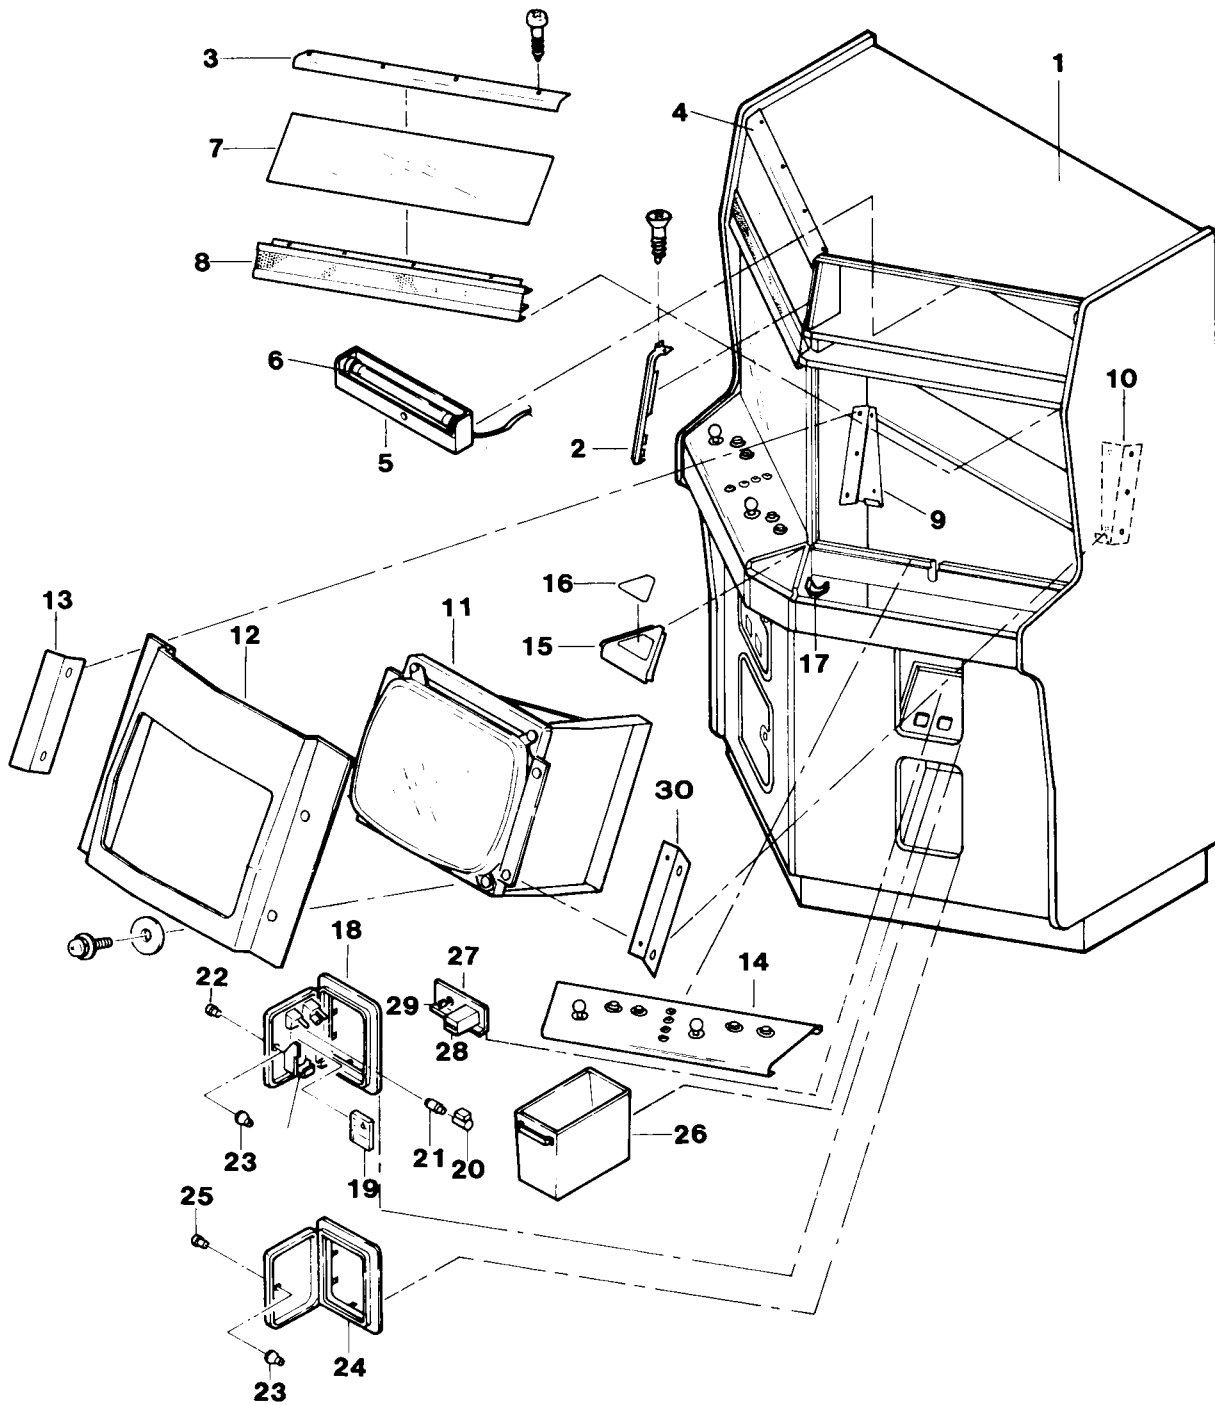

Fig. 9
A. Body Parts — See Figure 9
A. Body Parts, continued – See Figure 9